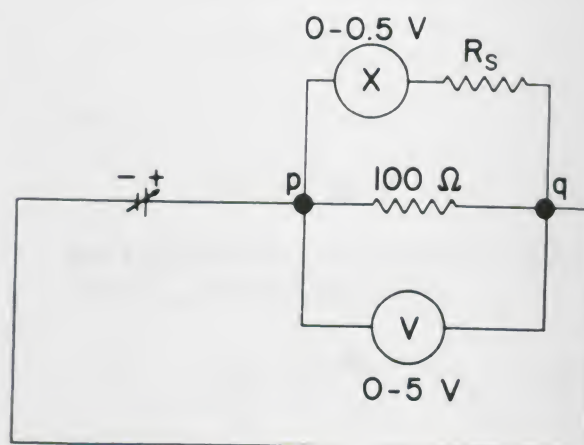

Figure 50.
To do this experiment you can use the 100- $\mu$ A meter (SRM-100) with the 0 to 0.5-V plug-in unit. Together they form the voltmeter (labeled  $X$  in Figure 50), which reads 0.5 V for full-scale deflection. The meter resistance  $R_m$  in this case is the sum of the resistance of the meter itself (1 k $\Omega$ ) plus the resistance of the plug-in unit (4 k $\Omega$ ). Your problem is to find the (additional) series resistance  $R_s$  needed to convert the voltmeter range to read 5 V full-scale. In other words, you are asked to increase the range of the voltmeter  $X$  by a factor of ten.
1. Wire the circuit shown in Figure 50. For  $R_s$  use an appropriate number of resistors in series or a suitable *decade resistance* box, if available. A decade resistance box contains a collection of resistors, combinations of which can be selected by means of selector switches. To prevent the voltmeter from being damaged by too much current, begin with a large value for  $R_s$ , at least 100 k $\Omega$ .